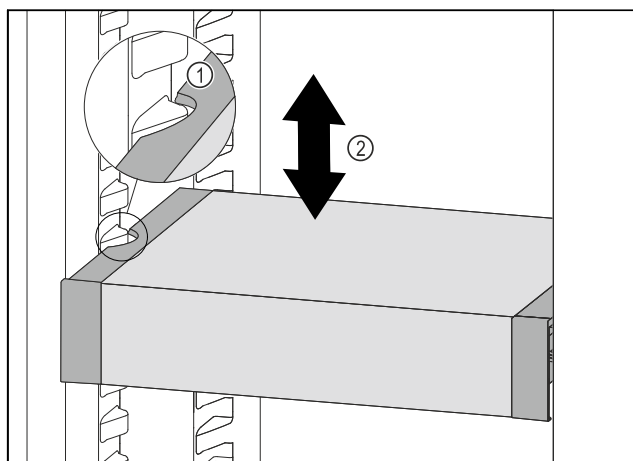

Fig. 93
- Pull VarioSafe forwards until the recesses in the side of the VarioSafe are at the level of the support rib in the refrigerator compartment. Fig. 93 (1)
- Move VarioSafe up or down in the refrigerator compartment until the desired height is reached. Fig. 93 (2)